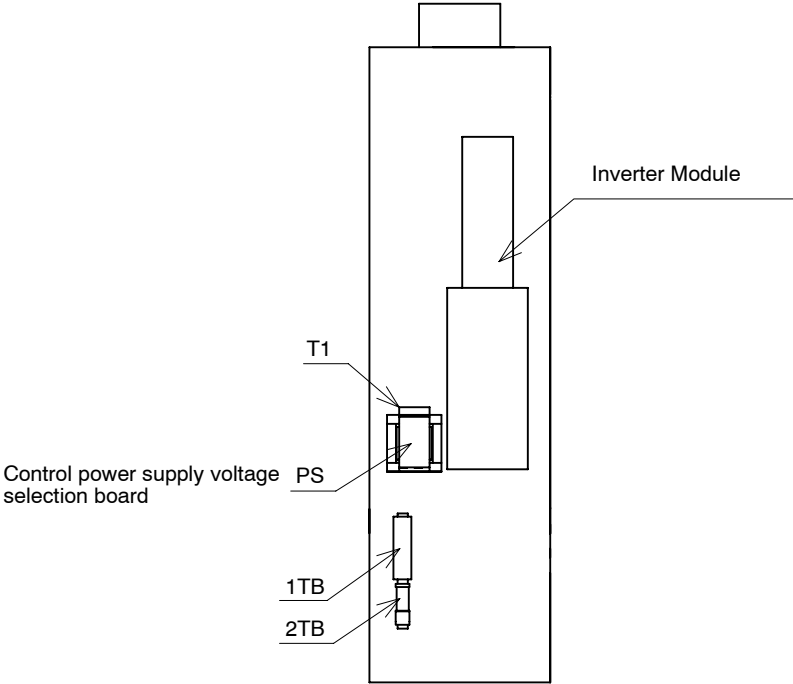
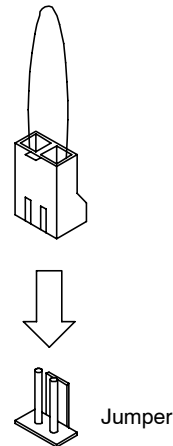

Fig 5.1 Selection of Control Power Supply Voltage for 400-V Class (200 kW) and 575-V Class (300 kW) Inverter Panels
Fig 5.3 Selection of Control Power Supply Voltage
3. Insert the jumper at the position that corresponds to the control power supply voltage supplied to the Inverter Panel. *Figure 5.1* and *Figure 5.2* indicate the jumper location and *Figure 5.3* indicates jumper arrangement.